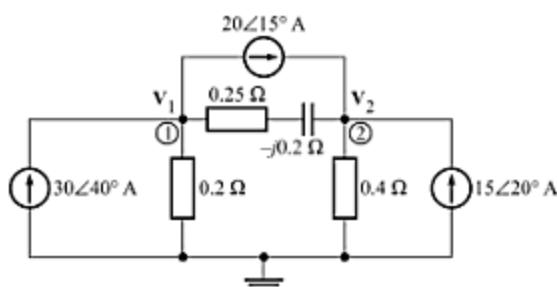

Fig. C-80
- C-133.** Solve the node voltages in the circuit shown in Fig. C-80. [Ans.  $5.13\angle 47.3^\circ$  V,  $8.18\angle 15.7^\circ$  V]